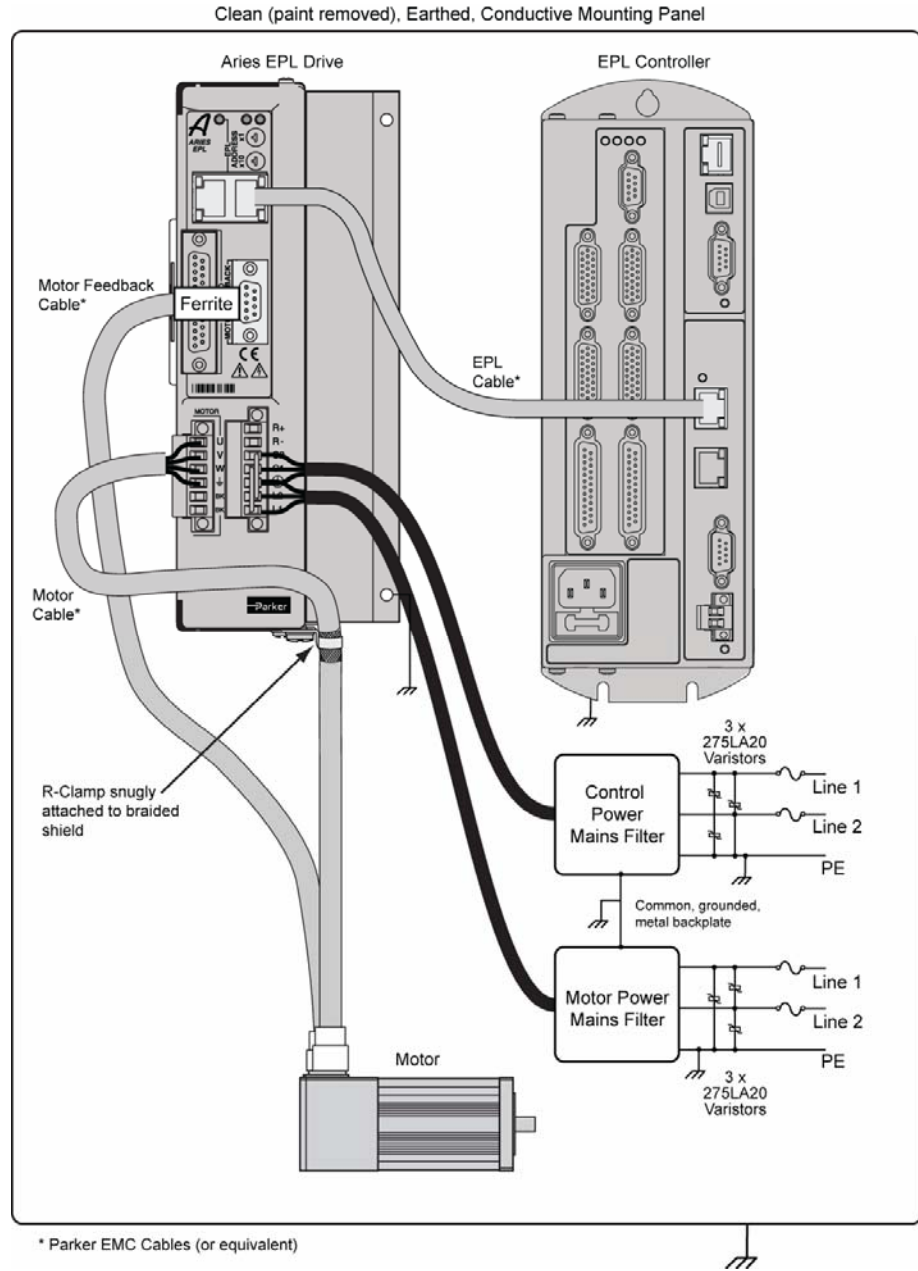

Figure 43 Typical LVD/EMC Installation
- If you mount the drive in an equipment cabinet, *terminate cable braids (screens) as they enter the enclosure*. This can be easily accomplished using the “additional EMC installation hardware” shown Figure 43 on page 110.
There is only one exception: *the motor braid must return to the drive's R-clamp* (located on the bottom of the drive—see Figure 43 on page 110). *Do not* return the motor braid to any other location; its function is to return high-frequency chopping current back to the drive. This may require mounting the connector on a sub-panel insulated from the main cabinet or using a connector having an insulated internal screen from the connector housing.
- Route cables as shown in Figure 43 on page 110.
Figure 43 illustrates a typical panel installation of the drive that meets LVD and EMC requirements.